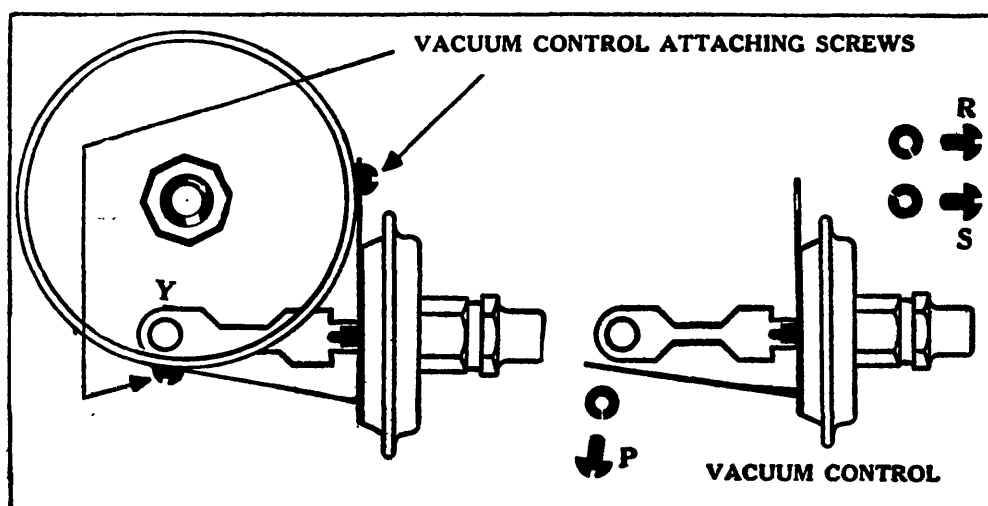

Fig. 9
9. Remove the three vacuum control attaching screws ("P", "R" and "S", Fig. 9), and the vacuum control unit may then be detached from the side of the distributor cup.
The construction of the six cylinder Delco-Remy "vacuumatic" distributor is somewhat different from that of the eight cylinder units, just described, in that the breaker plate and ball bearing retainer plate are riveted together. In order to remove the breaker plate assembly it is first necessary to remove the vacuum control attaching screws ("P", "R" and "S", Fig. 9). With these three screws removed the vacuum control chamber may be pulled in and, which, in turn, will rotate the breaker plate assembly a small amount.
The vacuum chamber on either the six or eight cylinder distributors may be changed without disturbing the condenser, breaker points, leads, or other parts of the distributor, by first removing the three vacuum control attaching screws ("P", "R" and "S", Fig. 9) and then rotating the breaker plate sufficiently to allow the three ball bearings to register with the three vertical grooves cut in the distributor cup. The breaker plate may then be lifted just enough to allow the actuating stud on the bottom of the plate to be disengaged from the hole in the vacuum control link ("Y", Fig. 9). The control assembly may then be removed from the distributor cup.